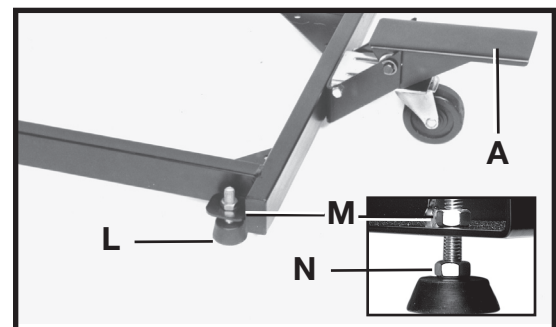

Fig. 6
3. The mobile base should be level with the floor surface when the foot lever (A) Fig. 6 is in the raised position. The two rubber feet - one is shown at (L) Fig. 6 - should contact the floor surface. To raise or lower each rubber foot, loosen the hex nut (M) and turn the nut (N) located directly above the rubber foot, up or down. After adjustment, tighten hex nut (M).
IMPORTANT: Raise the foot lever (A) Fig. 6, and make certain that it is in the locked position before placing the machine on the mobile base.